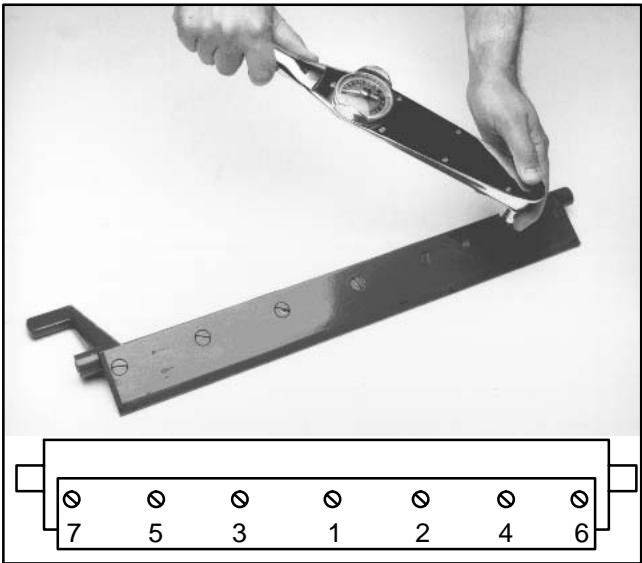

Figure 27
- C. Bedknife screws must bottom out on the bedknife, not the bedbar. Tighten screws to a torque of 180 to 200 in-lb (20.3 to 22.6 N-m); work from the center toward each end of the bedbar (Fig. 27)